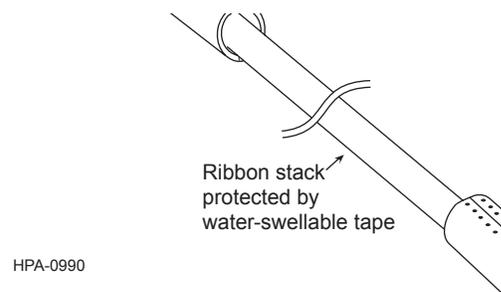

Figure 27
Step 14: Follow the UAT instructions to access the ribbons. After using a UAT III, the final result will look like Figure 27.